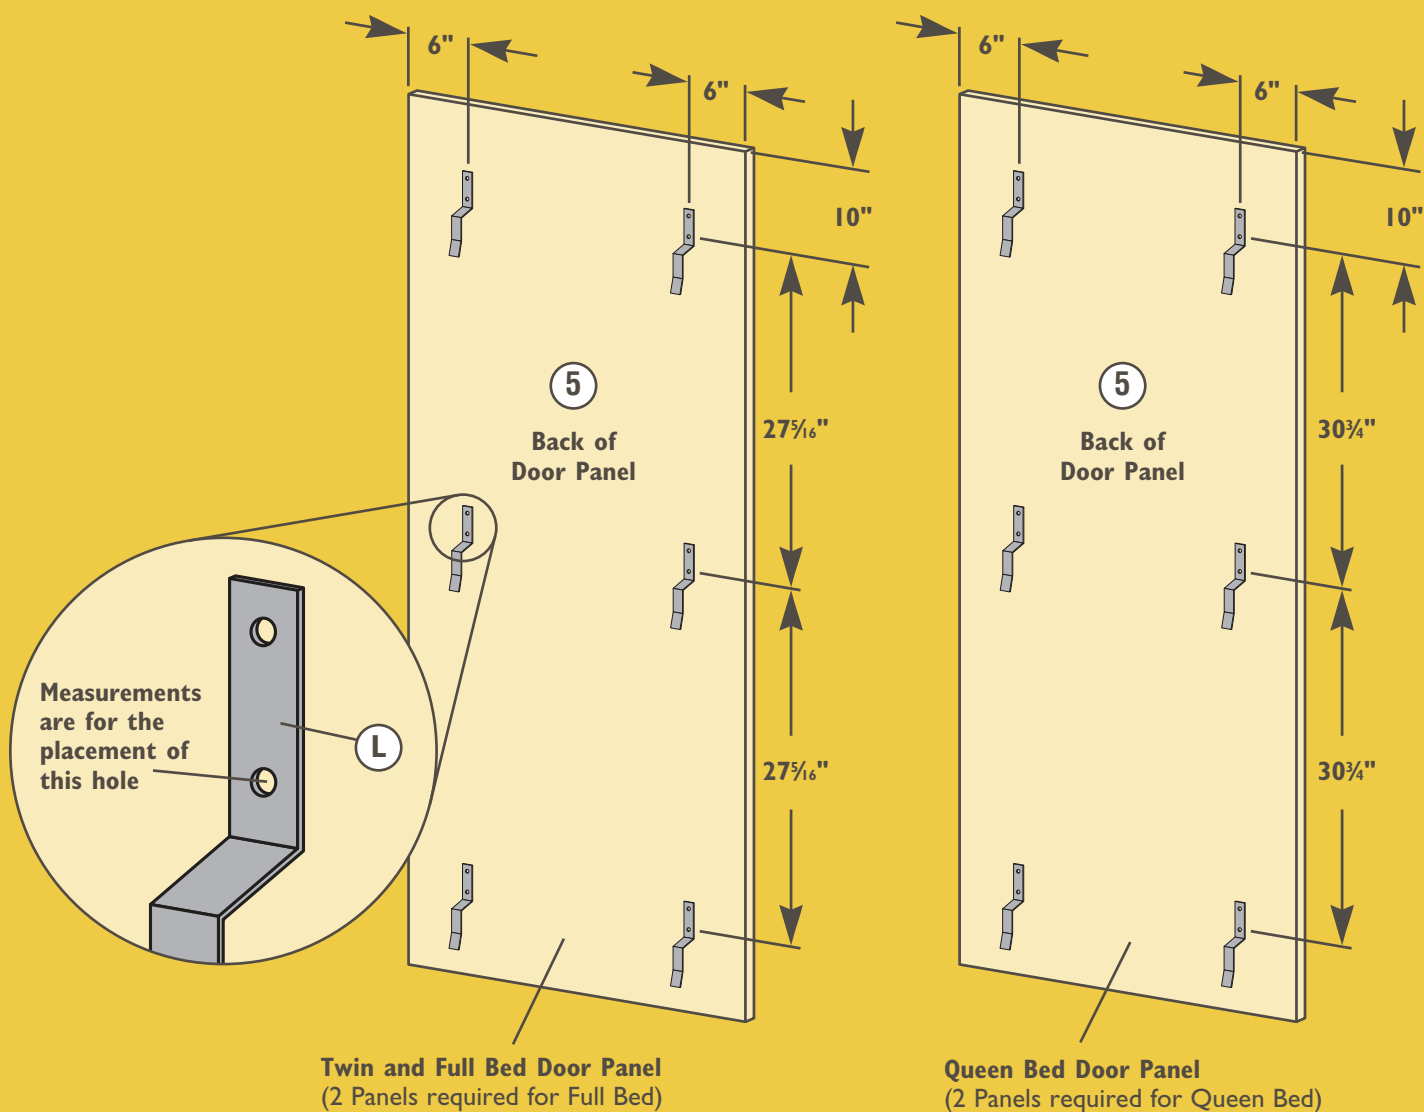

Fig. 16
1. Refer to **Fig. 16** to determine Door Bracket (L) mounting number and locations for your bed size. Note that the brackets need to point downward when